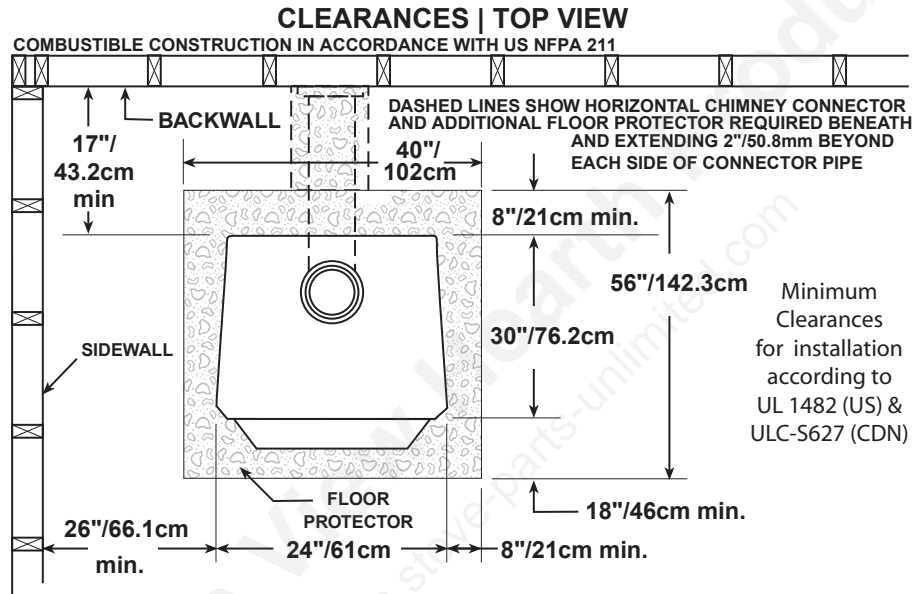

Fig. 5 – TOP VIEW Minimum Clearance Dimensions from Combustible Surfaces
1. The stove must be placed on solid concrete, solid masonry, or when installed on a combustible floor, on an Underwriters Laboratories Listed Type 2 floor protector listed to UL standard UL 1618, such as Hy-C or Imperial Model UL4056BK. Floor protector **must be 1/2" (13mm) minimum thickness (R value = 1.19, K value = 0.84** see page 23 for calculation formulas) non-combustible material or equivalent. The floor protector must extend at least 18" (46cm) beyond the front of the access door, 8" (21cm) to the sides, 8" (21cm) beyond the rear and must extend under and 2" (50mm) beyond either side of the stove pipe if it is elbowed towards a wall. (See figures 5 – 7 and consult local building codes and fire protection ordinances.)
CAUTION: FIRE HAZARD. CARPETING AND OTHER COMBUSTIBLE MATERIAL SHALL NOT COVER THE FLOOR PROTECTOR. THESE MATERIALS MUST REMAIN OUTSIDE OF COMBUSTIBLE CLEARANCES, SEE FIG. 5 – 7
4. After observing the clearances to combustible materials (figures 5 – 7), locate your floor protector accordingly (figure 5) and carefully place the stove in your selected location. Install connector pipe, elbows, and thimble as required, utilizing either a recently cleaned and inspected 6" (152mm) lined masonry chimney or a 6" (152mm i.d. UL 103 HT (US)/ULC-S629 (CDN) listed manufactured chimney.
6. Recheck clearances from the stove, connector stove pipe, and corner clearances using the illustrations in figures 5 – 7 and your local building codes or fire protection ordinances.